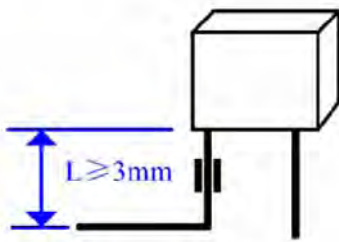

Figure 1
10.2 Use radio pinchers to bend the wire as shown in Fig.1 and not to damage the molded section of the case and the lead wire.